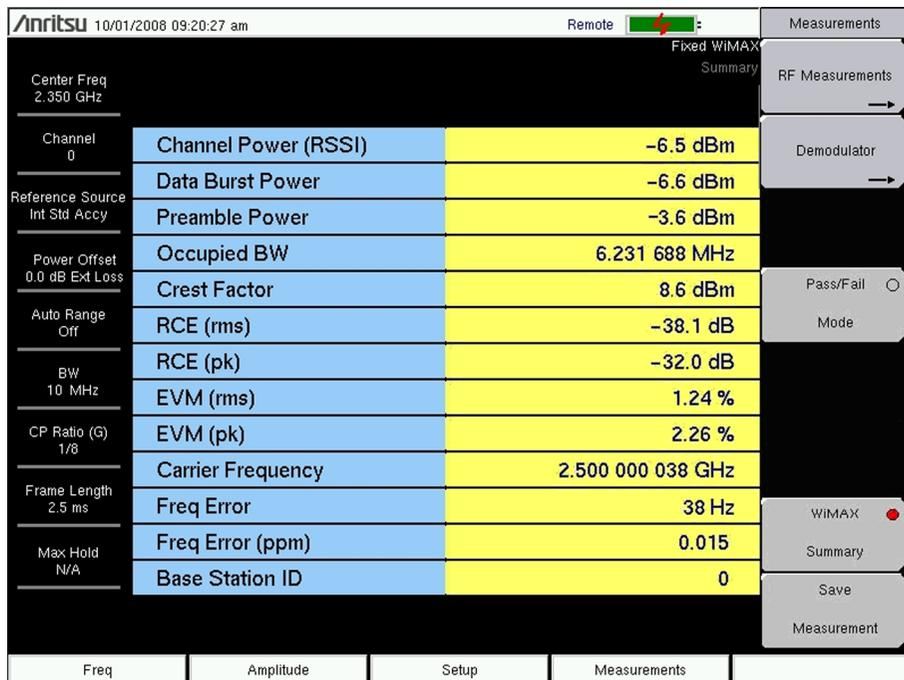

Figure 2-11. WiMAX Summary
3. Press the WiMAX Summary submenu key. The sample image in Figure 2-11 may differ from any image on your instrument.